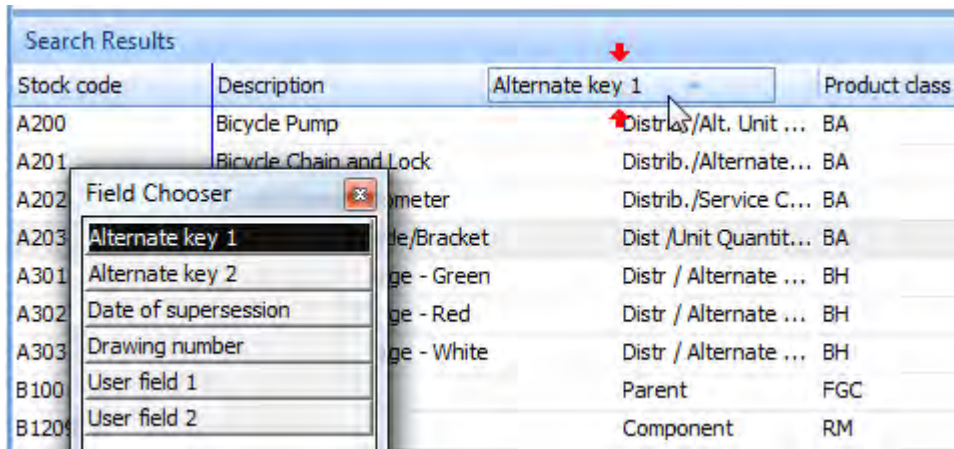

Figure 15-10: Dragging the *Alternate key 1* field from the *Field Chooser* to the listview
A second group of fields were selected that may be required, and these were specified to be returned by the business object, but do not appear as listview columns by default. This is because of the width available within the listview. These columns are available within the *Field Chooser* screen (from the context-sensitive menu that appears when you right-click on one of the column headers), and can be dragged onto the listview. They will then populate like any other column. **Figure 15-10** shows the *Alternate key 1* field being dragged from the *Field Chooser* screen to the listview. When the operator drops the field it will be added to this position within the listview, and removed from the *Field Chooser*.